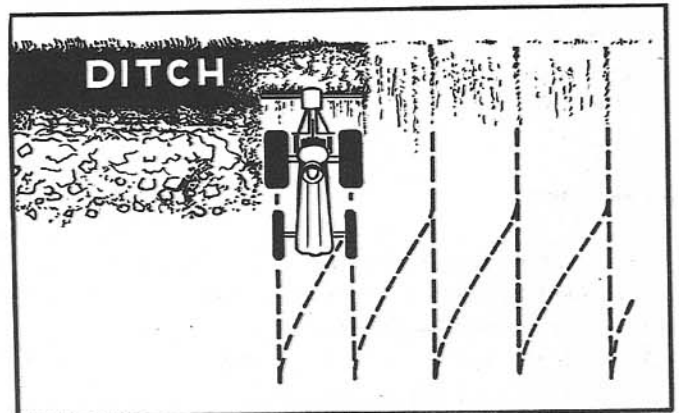

Figure 4
3. Set the throttle at 1400-1600 rpm. Using the hydraulic control lever, lower the blade until it contacts the ground. Do not move the control lever lower than necessary. Back the tractor straight into the pile and continue to push the load into the ditch. Raise the blade and drive the tractor forward in a pattern as shown in Figure 4. Repeat this operation until the pile is removed.